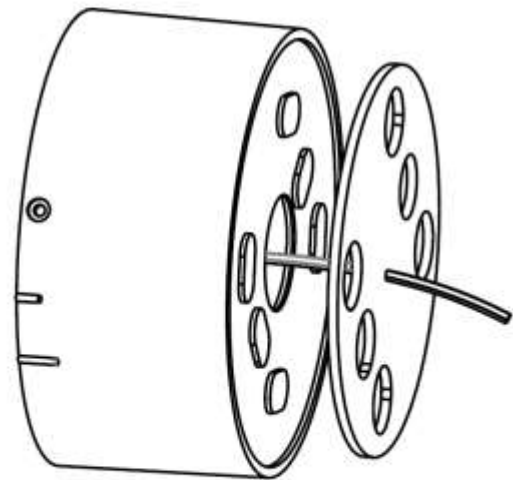

Figure 2
- 2- Place the washer at locations, where IP 44 needs to be used (Figure 2).
- 4- Perform the connection between the connector in the upper casing (Figure 2(a)) with the connector indicated on Page 2.
- 5- Place the upper casing (Figure 2(a)) according to the notches to be seen in the figure on the lower casing (Figure 2(b)).